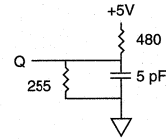

Fig. 2 OUTPUT LOAD EQUIVALENT
- t_{HZCE} and t_{HZWE} are specified with C_L = 5pF as in Fig. 2. Transition is measured ± 500mV from steady state voltage.